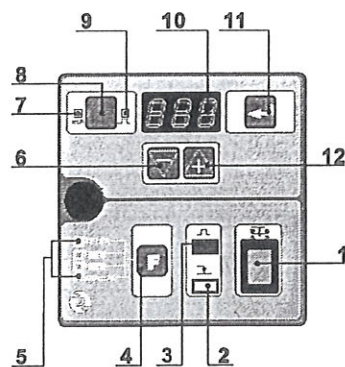

Fig. 23
9.4 - PB- CC PUMP CONTROLS (Fig. 23)
9.6 - PARAMETERS SETTING MODE (Fig. 23)
- Turn pump ON (1)
- A. On the control panel press button F (4) and start manual mode: ("Manual" L.E.D. 5 ON)
- B. Select the minimum pump output required pressing buttons 6 and 12. If the minimum output is zero, set 0. Confirm with enter (11).